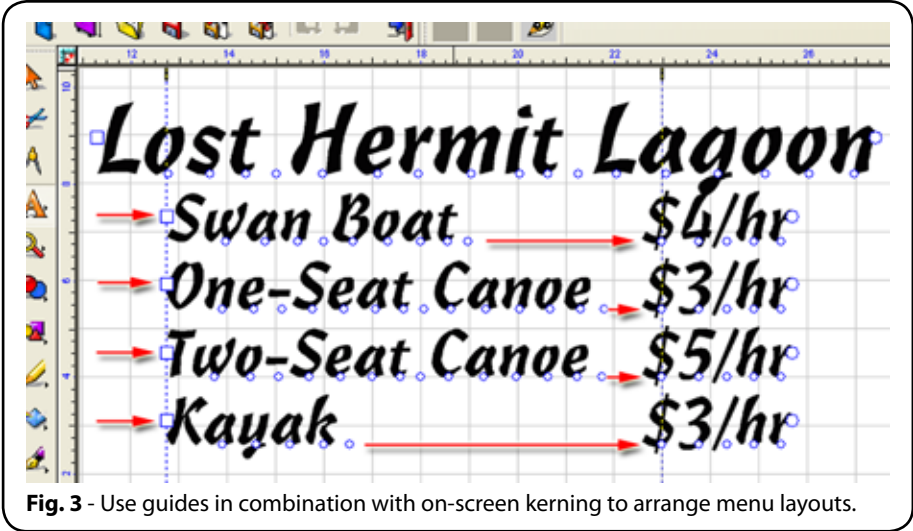

Fig. 3 - Use guides in combination with on-screen kerning to arrange menu layouts.
- **On-Screen Kerning** - Use the on-screen kerning tools to define the spacing between letters, words and lines (Fig. 3).